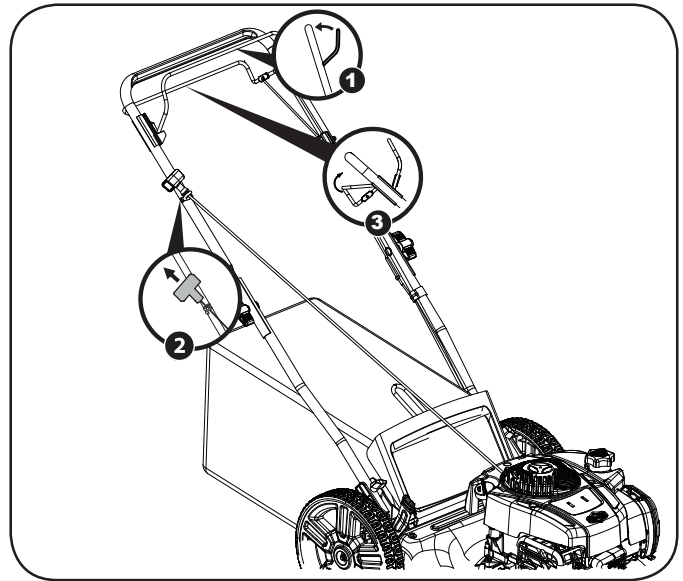

Figure 10
1. Standing behind the mower, pull the blade control handle back against the upper handle (Figure 10).
2. While holding the blade control against the upper handle, grasp the recoil starter handle and pull rope out with a rapid, continuous, full arm stroke. Keeping a firm grip on the starter handle, let the rope rewind slowly. Repeat until engine starts. Let the rope rewind each time slowly (Figure 10).
3. Push the drive control forward to engage the self-propelled function (Figure 10).